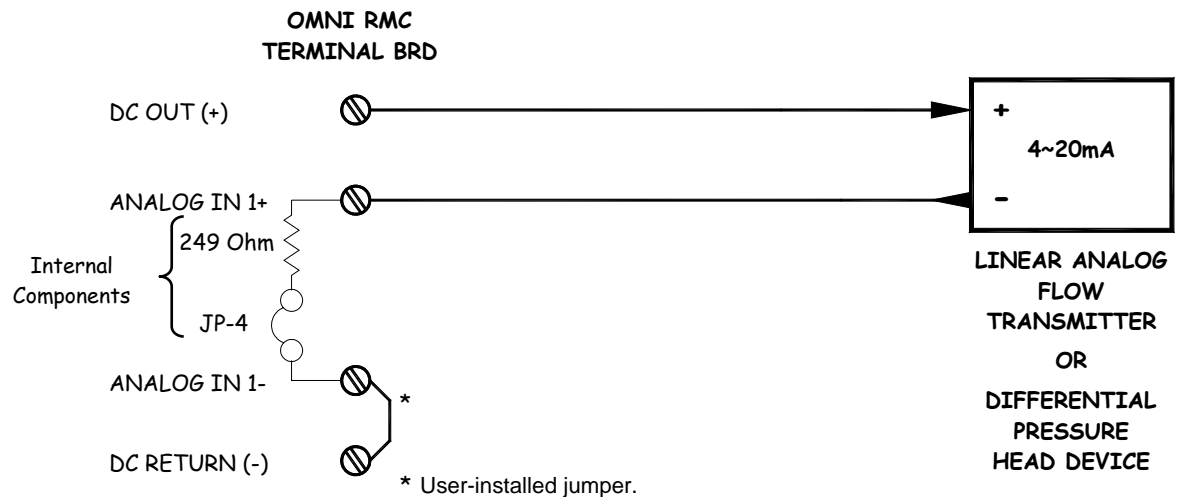
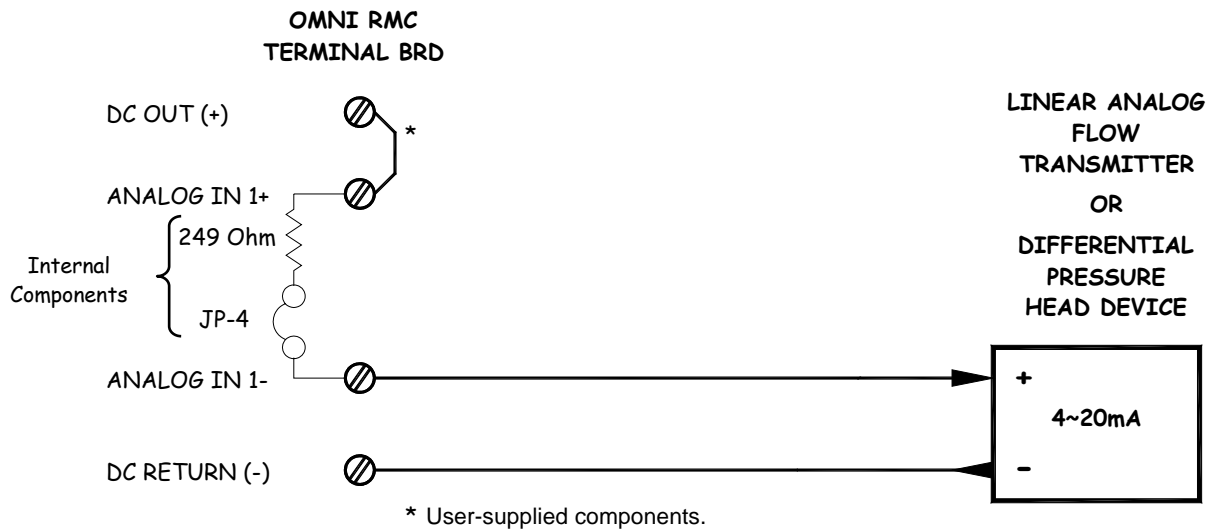

Figure 5-10. Wiring either a linear analog or a differential pressure flowmeter to RMC Analog Input #1 in a high-leg wiring configuration.
Figure 5-11. Wiring either a linear analog or a differential pressure flowmeter to RMC Analog Input #1 in a low-leg wiring configuration.
Linear analog and differential pressure (DP) flowmeters connect to the RMC just as any other 4–20mA or 1–5V analog transmitter (see Section 6.1 “Miscellaneous Analog Transmitters”). Figure 5-10 and Figure 5-11 respectively show the wiring of these flowmeters to an RMC analog input in high-leg and low-leg wiring modes (refer to Section 4.1.1 “Analog Inputs”).